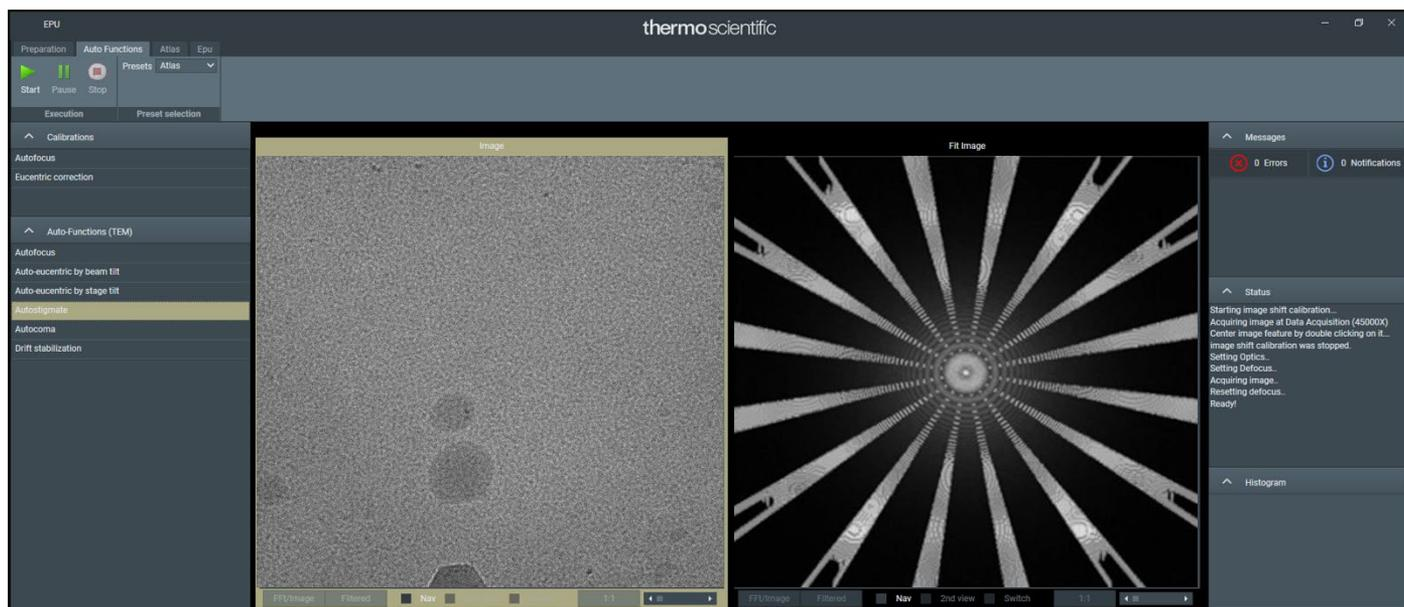

Figure 3: EPU 2 software automates all daily alignments needed for an experimental run
2. The second step controls the Auto Functions, which allow you to verify that the microscope is properly aligned for high resolution data acquisition. Automated user alignments such as Auto-Eucentricity, Auto-Focus, Auto-Coma and Auto-Stigmatate can be executed via the EPU user interface (Figure 3).